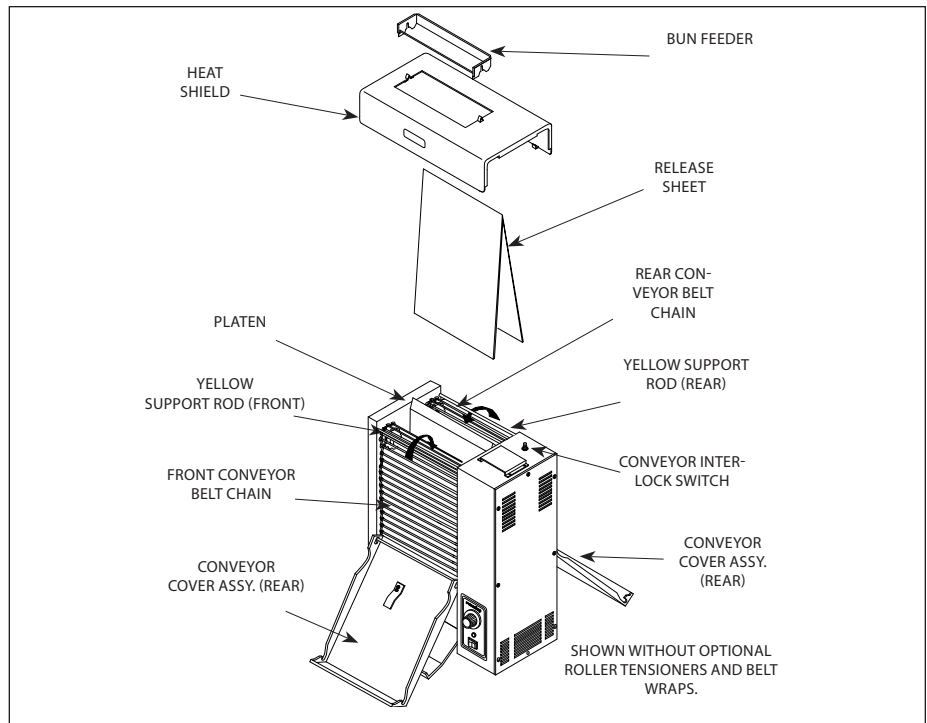
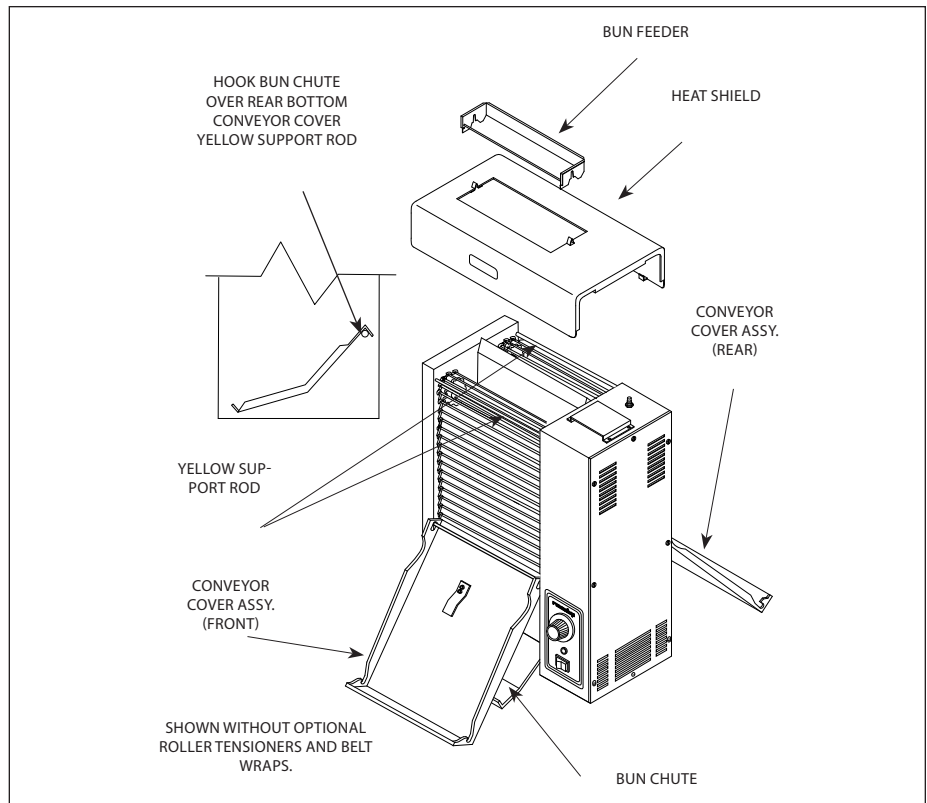

Figure 1. Toaster and Accessories
Figure 2. Installing Bun Chute
- Bun Feeder (Figure 1)
- Bun Chute (Figure 2)
- Two Release Sheets (Figure 1)
NOTE: The factory has pre-installed a Release Sheet over the Platen (Figure 1). Verify that it is properly in place before proceeding.
1. Install the Bun Feeder (Figure 1) and Bun Chute (Figure 2).
NOTE: Make sure Heat Shield Assembly is properly seated and engages the Conveyor Interlock Safety Switch (see Figure 1). The conveyors will not rotate unless the Heat Shield is in place and correctly engages the Conveyor Interlock Safety Switch.
A Conveyor Interlock Safety Switch is located on top of the unit under the Heat Shield (Figure 1). The Conveyor Belt Chains will not rotate unless the Heat Shield is in place and activating the Conveyor Interlock Safety Switch properly.
2. Put on heat resistant gloves. Remove the Bun Feeder, Heat Shield, and Bun Chute (Figure 1).